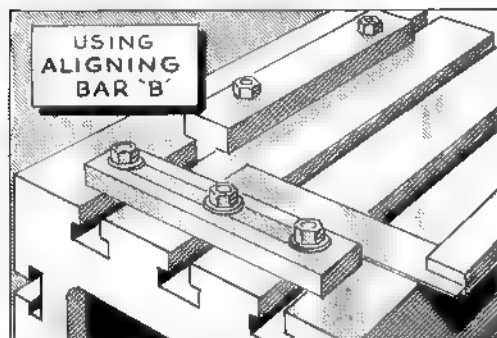

FIG. 170
4. Use either a solid square (Fig. 170), or a combination square to set the new aligning strip at 90° with the one previously located, or at 90° with the edge of the table.
9. Tighten the nuts down securely when the proper adjustment has been made. The strip may be set also by placing the beam of the square against the edge of the table (Fig. 170) and aligning the strip parallel with the blade of the square. If a more accurate setting is required, an indicator can be used.